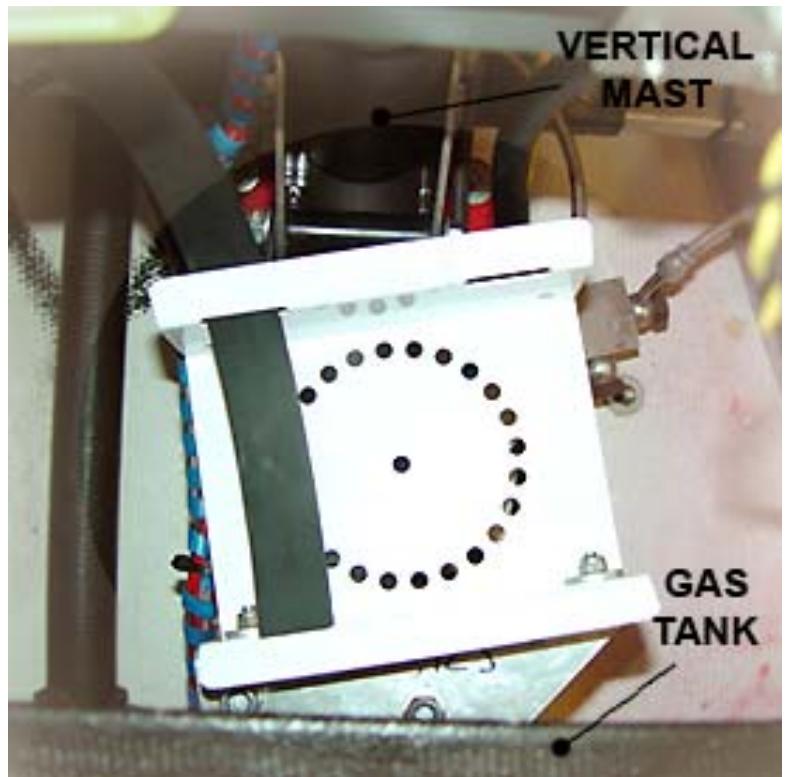

Figure 3-5
- 3.4 Install the Modular Mount assembly on the Bottom and Rear Brackets, as pictured in Figure 3-5.